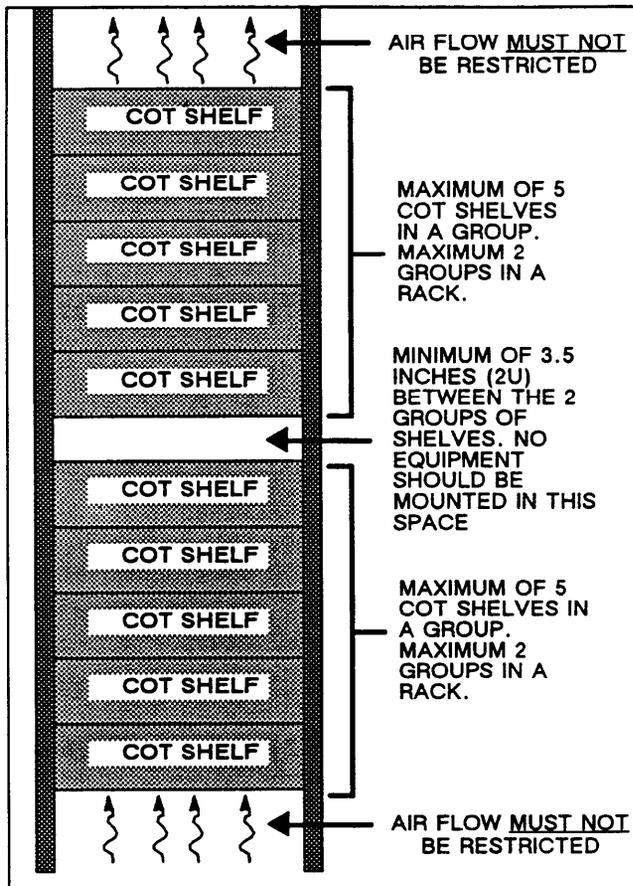

Figure 15. Typical COT Shelf Orientation For Proper Heat Dissipation
- (f) For proper heat dissipation the maximum number of shelves per relay rack is 10. See Figure 15 for typical COT shelf orientation for proper heat dissipation.